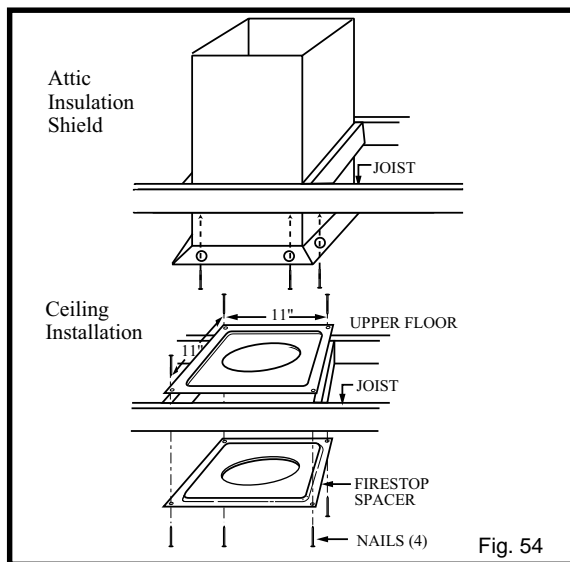

Fig. 54
5. Place firestop(s) 7DVFS into position and secure. (Fig. 54)
Fig. 54 If there is a room above ceiling level, firestop spacer must be installed on both the bottom and the top side of the ceiling joists. If an attic is above ceiling level a 7DVAIS (Attic Insulation Shield) must be installed.